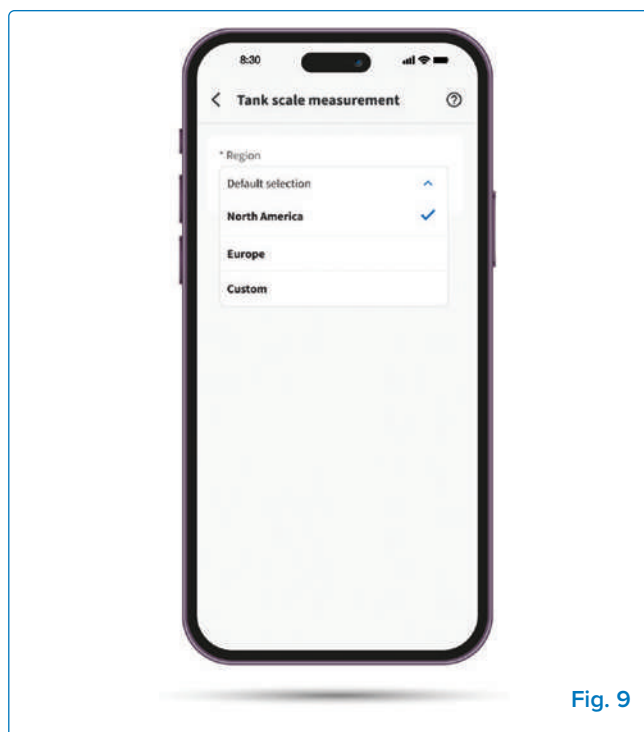

Fig. 9
- Open the Napoleon Home App and go to the Tank Scale section (**Fig. 9**).